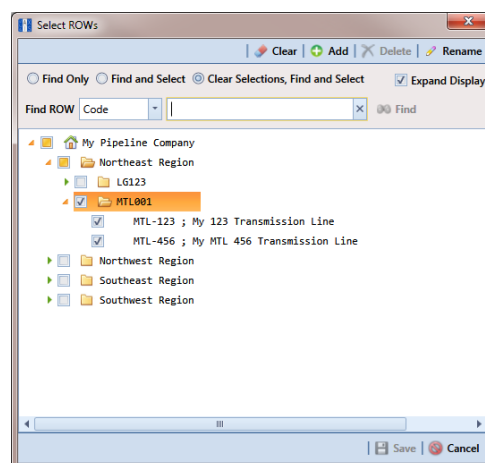

Figure 10-3. Select ROWs
- 1 Select one or more pipeline segments in the *Select ROWs* window. Choose pipeline segment(s) with facilities you want to include in the Bridge definition. Click  **Save** to close the window (Figure 10-3).